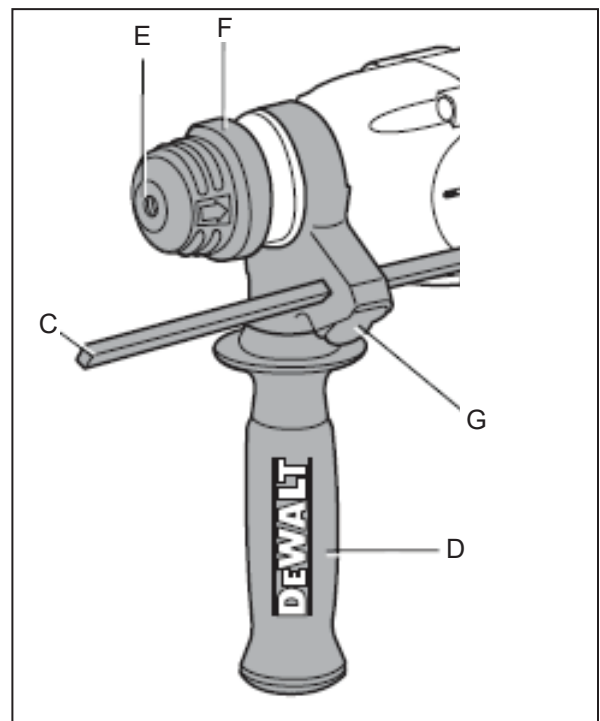

Figure 3: Side Handle and Depth Gauge
Drilling depth can be set using the depth gauge mounted on the side handle (see Figure 3). To set the gauge, push down on the release button (G) on the side handle, slide the depth gauge (C) to the desired position, and release the button making sure it snaps into place. Be sure the side handle (D) is tight before operating the tool.
To install SDS Plus shanked bits or the bull-point chisel bit, insert the bit shank into the tool holder/locking sleeve. Then push the bit down and turn it slightly until it fits into the slots. Pull on the bit to check if it is properly locked. To remove the bit, push down on the tool holder/locking sleeve (F) (See figure 3) and pull out the bit.